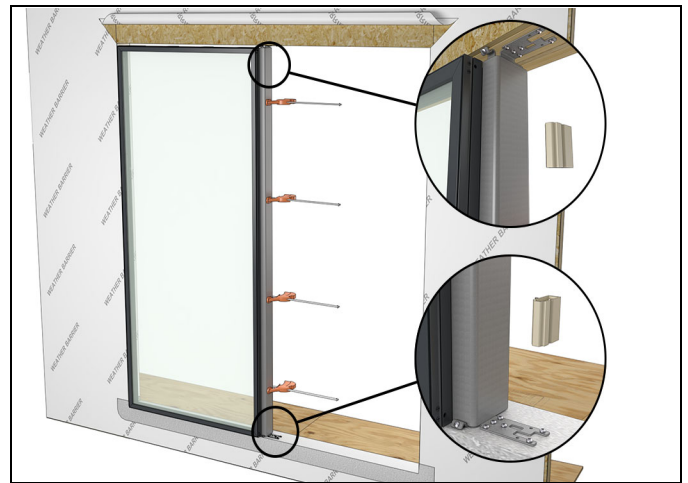

Figure 132
17. Remove the temporary mull filler blocks. See Figure 132.